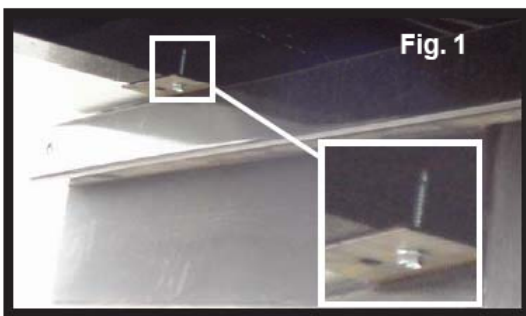

Fig. 1
FOR BOX TUBING FRAME RAILS – Install two (2) $\frac{1}{4}$ " self-tapping $1\frac{1}{2}$ " long at mounting plate locations (A, B, C & D). This will require a $\frac{3}{8}$ " hex head socket or nut driver. See Fig. 1.